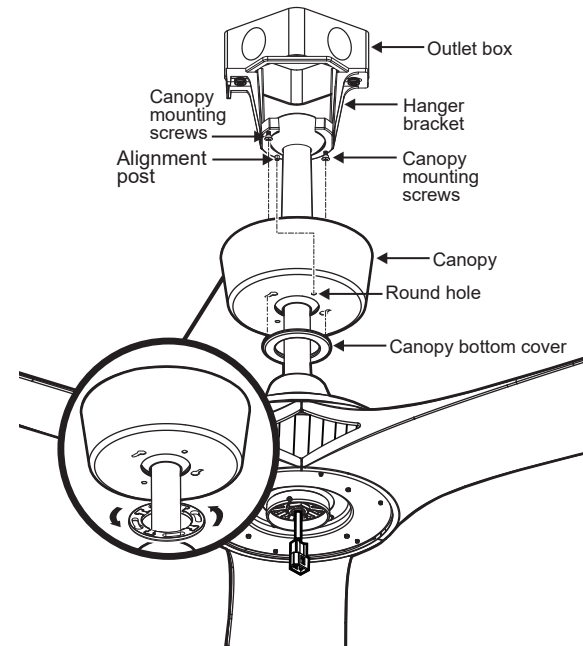

Fig. 15
Step 1. Make sure connections are neatly tucked into the ceiling outlet box. (Fig. 15)